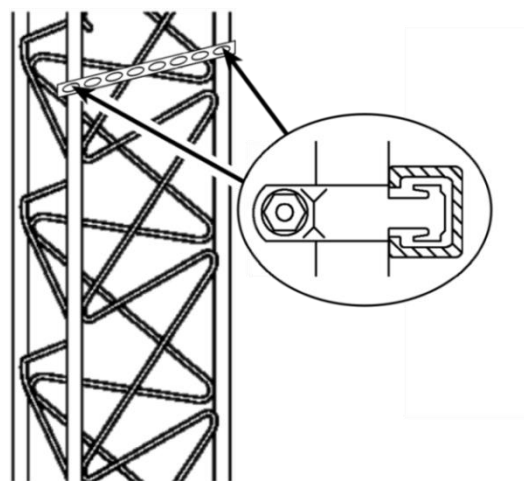

Figure 3. Secure Top Unistrut to Tower Leg
2. Position the upper Unistrut strip approximately 2 m (6 ft) above the ground next to a face of the tower centered on the tower legs and secure it to the tower legs using the mounting hardware provided (Figure 3). Keep the Unistrut parallel to the ground.